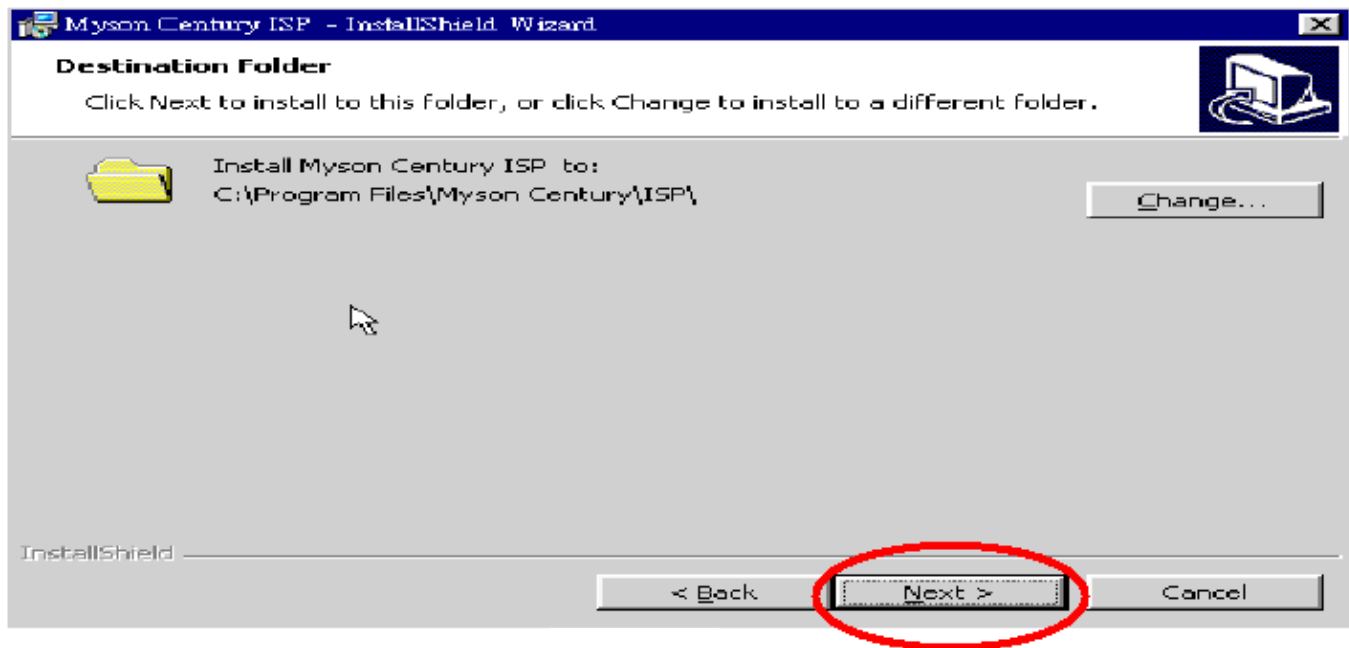

Fig 2.4
2.4 Keep default setting or press “Change” button for selecting the path that you want , and then press “Next” button to continue, see Fig 2.4.